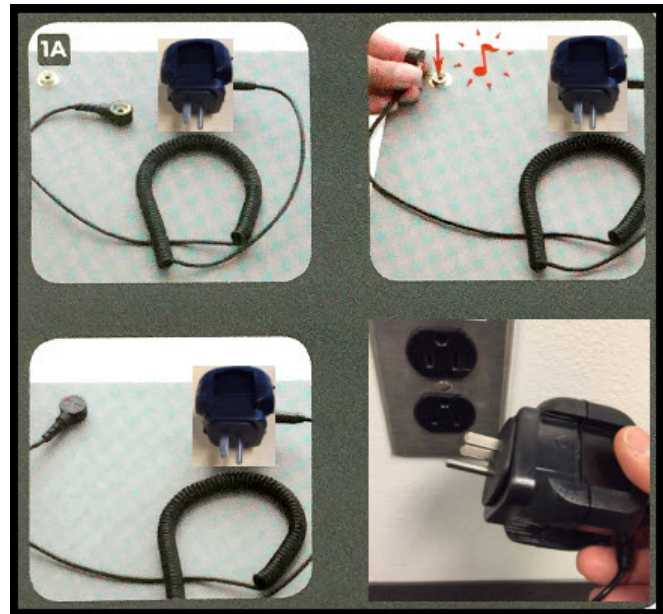

Figure 2. VAS6613 ESD work surface grounding plug.
- Ground the ESD mat by plugging the 110V grounding strap into a wall socket or power strip (Figure 2). If a power strip is used, it must be plugged into a grounded wall outlet. (See attached user instructions for VAS6613 titled "VAS6613 ESD Workspace Guide.pdf".)